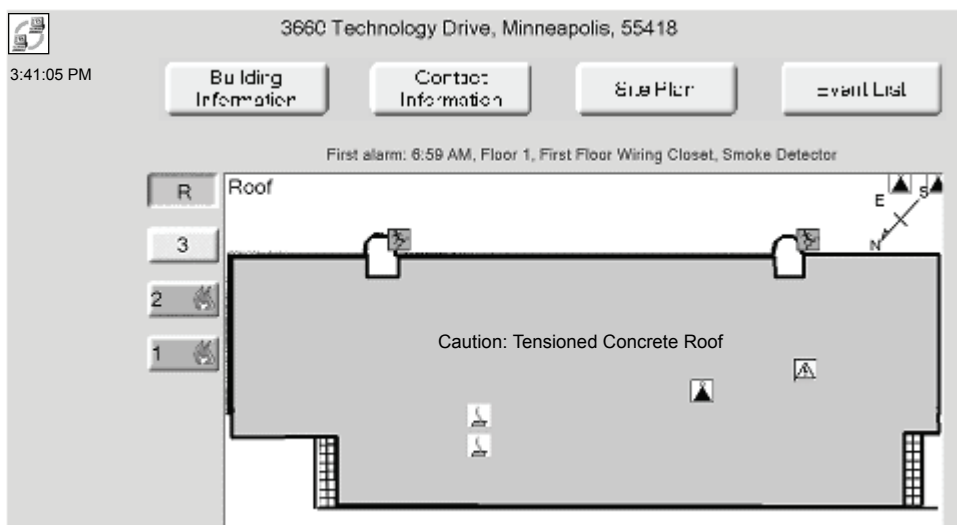

Figure 5.2 Fire Scene Scenario Roof Plan Information
- Checks layouts of other floors and the roof (as shown in the example in Figure 5.2) to be sure the fire is contained on only those levels.